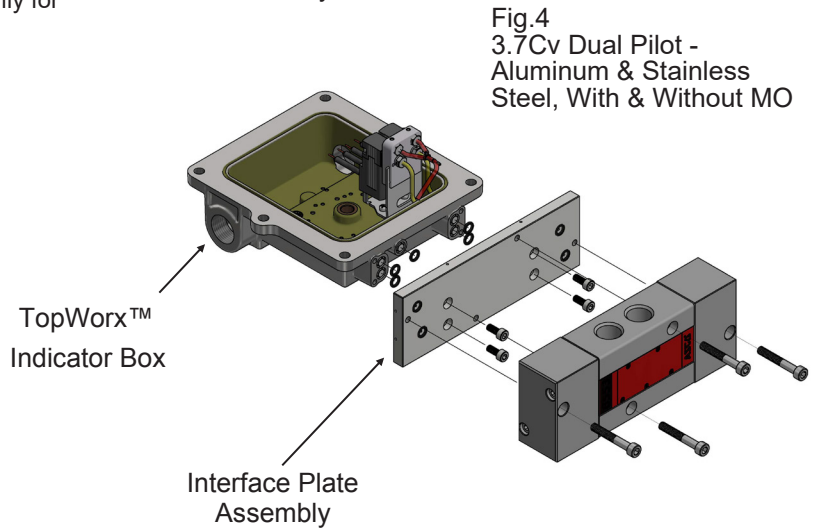

Fig.4
The MO is indicated with symbol in (H) Figure 5. MO provides manual operation when desired or during an electrical power outage. Refer to figure 4 for MO Operation. To engage valve manually, insert a screwdriver into arrow slot, push the MO forward till it stops and then rotate it as far as possible to "2". Valve will now be in the same position as when the solenoid is energized. To disengage MO, rotate arrow slot as far as possible to "0".